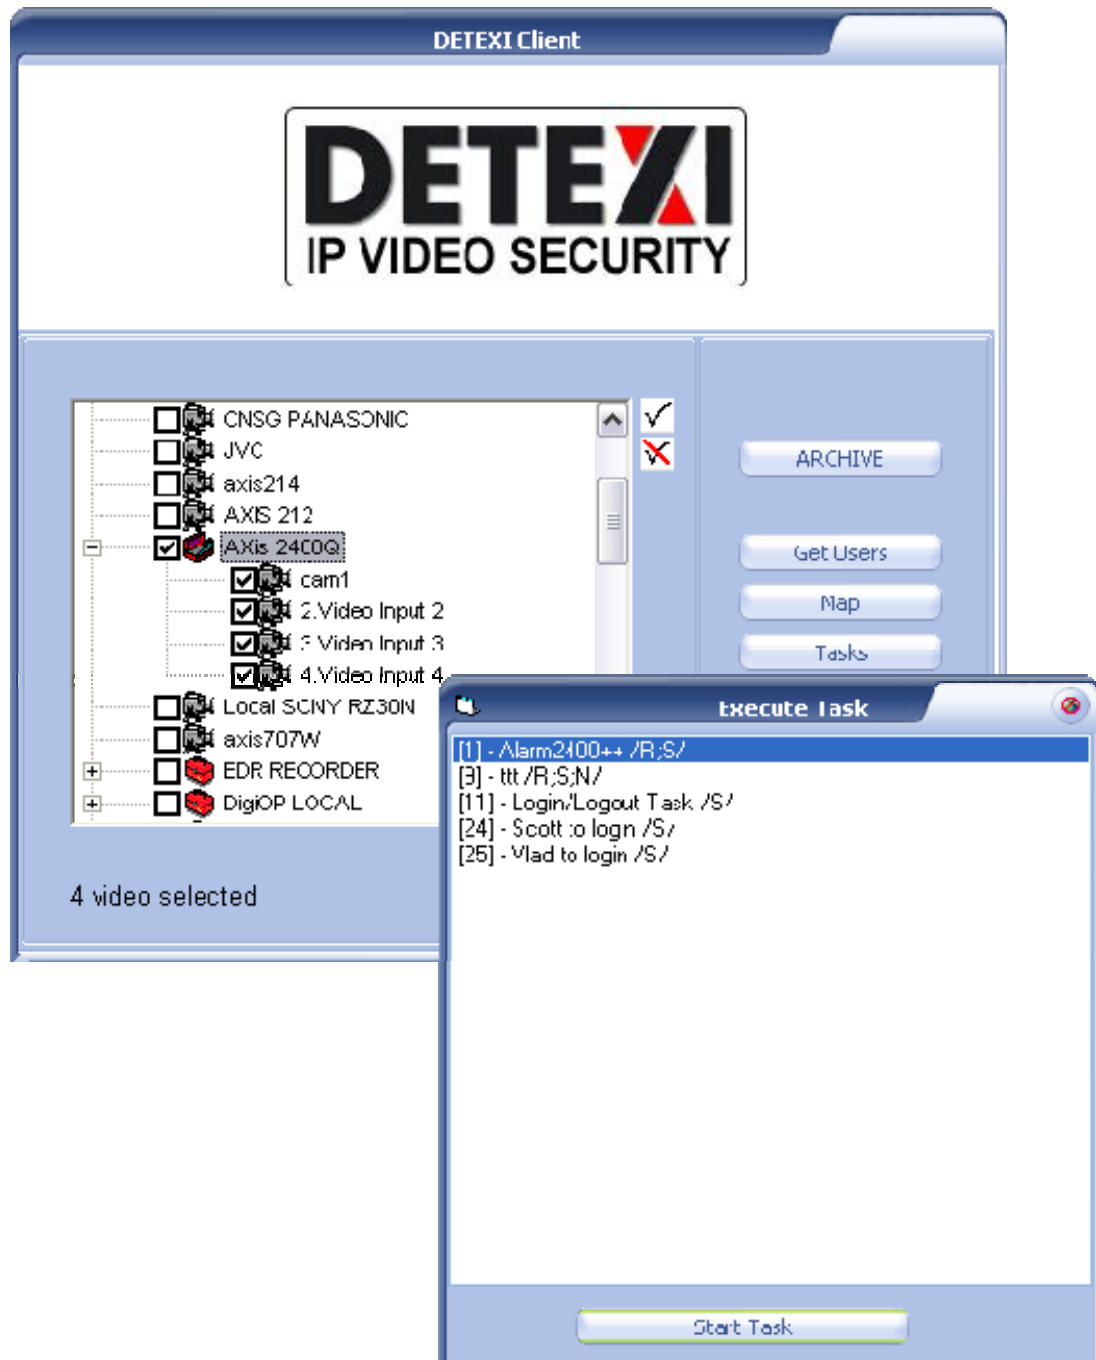

Fig 115. Remote DETEXI Client — Execute Task
1. Login to the **Remote DETEXI Client** (Fig 115).